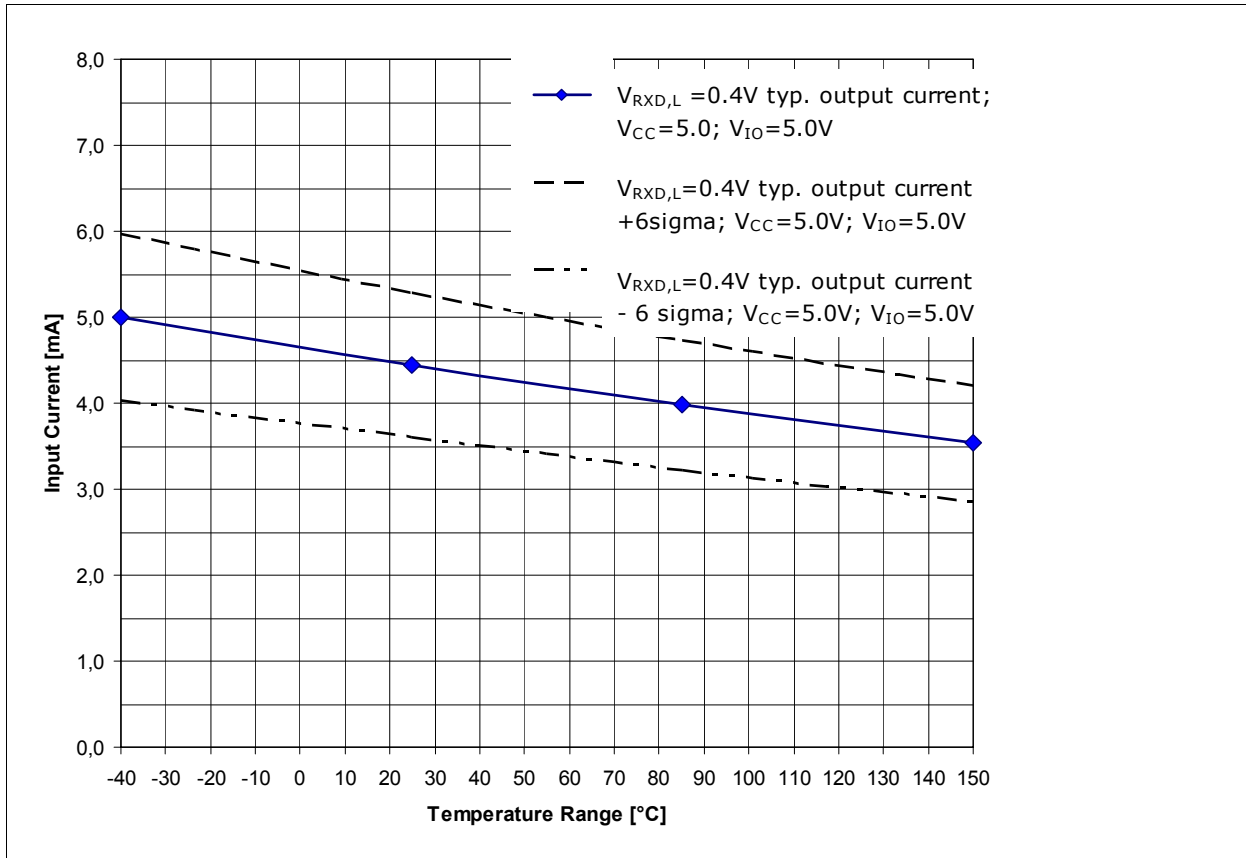
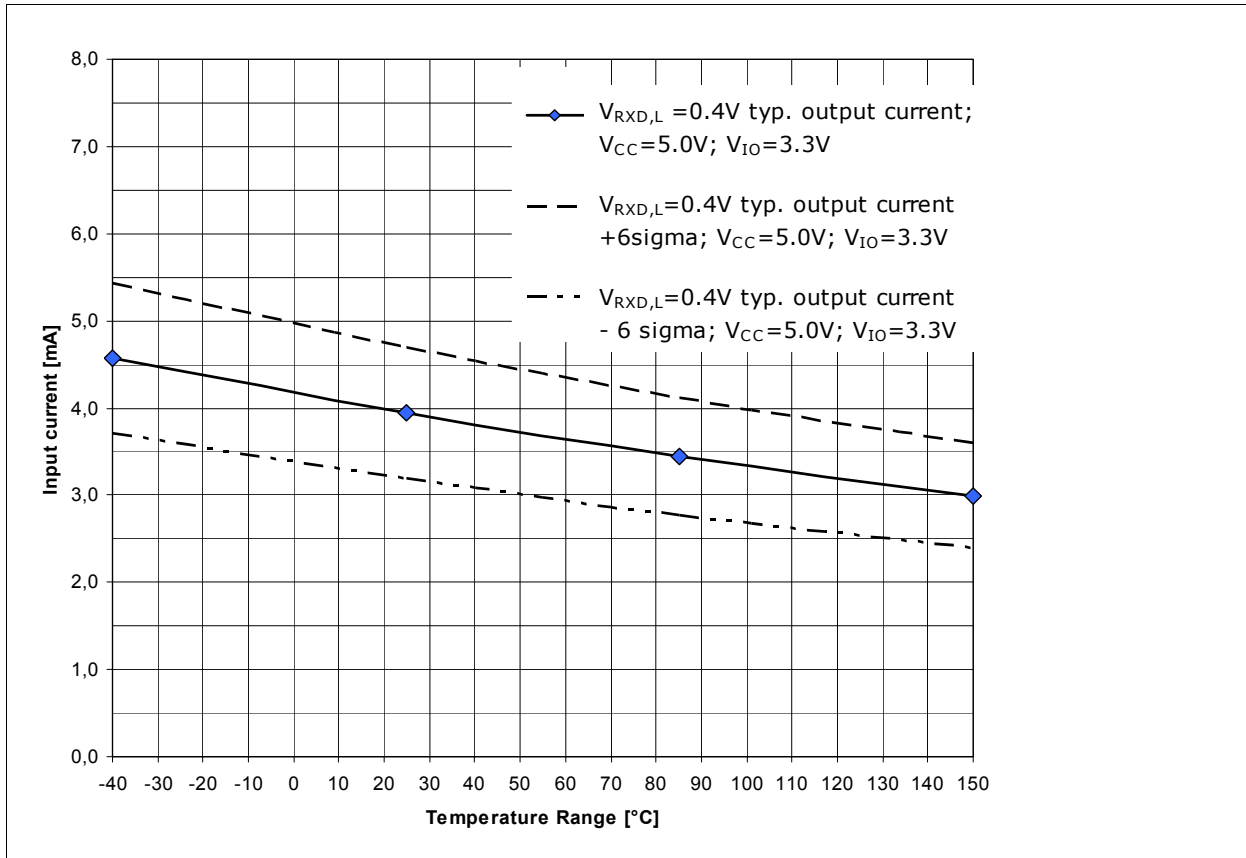

Figure 13 RxD Output driver capability for a logical “Low” signal $V_{RxD,H}=0.4\text{ V}$, $V_{CC}=5.0\text{ V}$, $V_{IO}=5.0\text{ V}$ ¹⁾
Figure 14 RxD Output driver capability for a logical “Low” signal $V_{RxD,H}=0.4\text{ V}$, $V_{CC}=5.0\text{ V}$, $V_{IO}=3.3\text{ V}^{1)}$
The diagram in Figure 13 and the diagram in Figure 14 show the input current capability of the RxD output pin depended on the chip temperature T_J . Figure 13 shows the input current capability of the RxD output pin at a V_{IO} power supply of 5.0 V and Figure 14 shows the input current capability of the RxD output pin at a V_{IO} power supply of 3.3 V.
- The curve “ $V_{RxD,H} = 0.4$ V; typical input current; $V_{CC} = 5.0$ V; $V_{IO} = 5.0$ V;” displays the typical input current at the RxD output pin of the TLE8250GVIO (see Figure 13).
- The curve “ $V_{\text{RxD,H}} = 0.4 \text{ V}$; **typical input current + 6 sigma**; $V_{\text{CC}} = 5.0 \text{ V}$; $V_{\text{IO}} = 5.0 \text{ V}$,” displays the expected maximum value of the input current at the RxD output pin (see Figure 13).
- The curve “ $V_{\text{RxD,H}} = 0.4 \text{ V}$; **typical input current - 6 sigma**; $V_{\text{CC}} = 5.0 \text{ V}$; $V_{\text{IO}} = 5.0 \text{ V}$,” displays the expected minimum value of the input current at the RxD output pin (see Figure 13).
- The curve “ $V_{\text{RxD,H}} = 0.4 \text{ V}$; **typical input current**; $V_{\text{CC}} = 5.0 \text{ V}$; $V_{\text{IO}} = 3.3 \text{ V}$,” displays the typical input current at the RxD output pin of the TLE8250GVIO (see Figure 14).
- The curve “ $V_{\text{RxD,H}} = 0.4 \text{ V}$; **typical input current + 6 sigma**; $V_{\text{CC}} = 5.0 \text{ V}$; $V_{\text{IO}} = 3.3 \text{ V}$,” displays the expected maximum value of the input current at the RxD output pin (see Figure 14).
- The curve “ $V_{\text{RxD,H}} = 0.4 \text{ V}$; **typical output current - 6 sigma**; $V_{\text{CC}} = 5.0 \text{ V}$; $V_{\text{IO}} = 3.3 \text{ V}$,” displays the expected minimum value of the output current at the RxD output pin (see Figure 14).